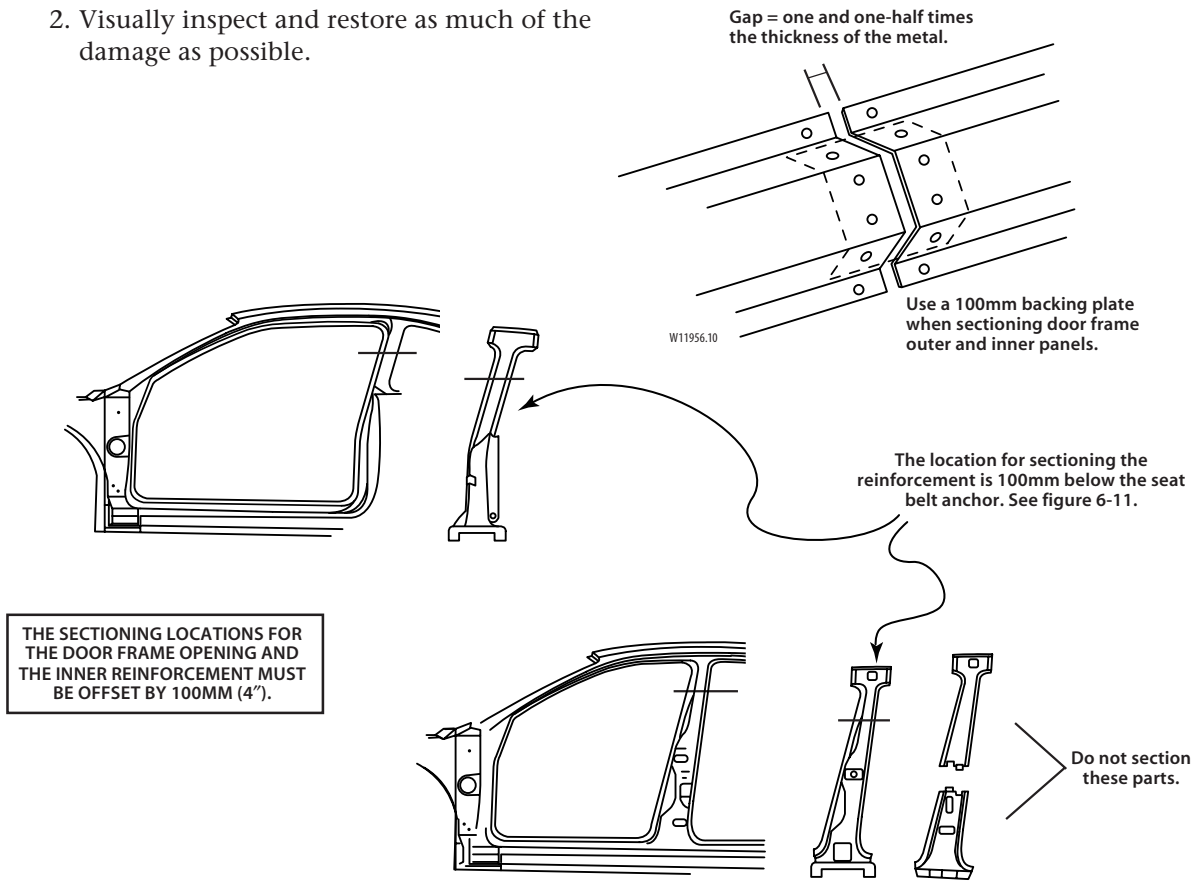

Figure 6-10:
4. Cut the reinforcement panel in the area where the sectioning is to take place (figure 6-10). Sectioning should be performed only in the recommended areas. NOTE: When sectioning both the inner and the outer panels, see the illustration for recommended offsets of the sectioning cuts.
1. On the service part, mark a horizontal line to leave a gap of one and one-half times the thickness of the metal at the sectioning joint. Cut the service reinforcement panel along this line (figure 6-10).
4. Prepare the mating surfaces and position the backing plates with 50mm (2 inches) of the backing plate exposed, then plug weld. Position the service part to overlap the exposed 50mm (2 inches) of the backing plate, check fit using three-dimensional measuring equipment, and plug weld accordingly with frequent measurements to ensure proper fit and alignment (figure 6-10).